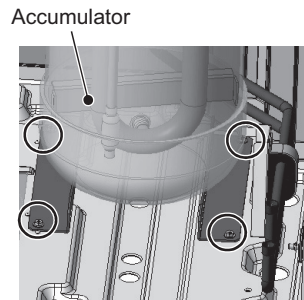

Figure 6
- (7) Remove the four screws from the accumulator fixing base legs. (See Figure 6.)